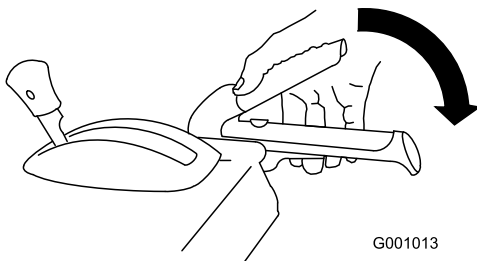

Figure 37
1. To engage the auger/impeller drive, squeeze the right (auger/impeller) lever to the handgrip (Figure 37).